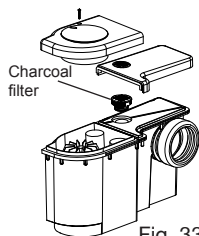

Fig. 33
- 6.19 Should the unit start to release odours the charcoal filter (Part No. 28170) should be changed (Figs. 33 & 34).